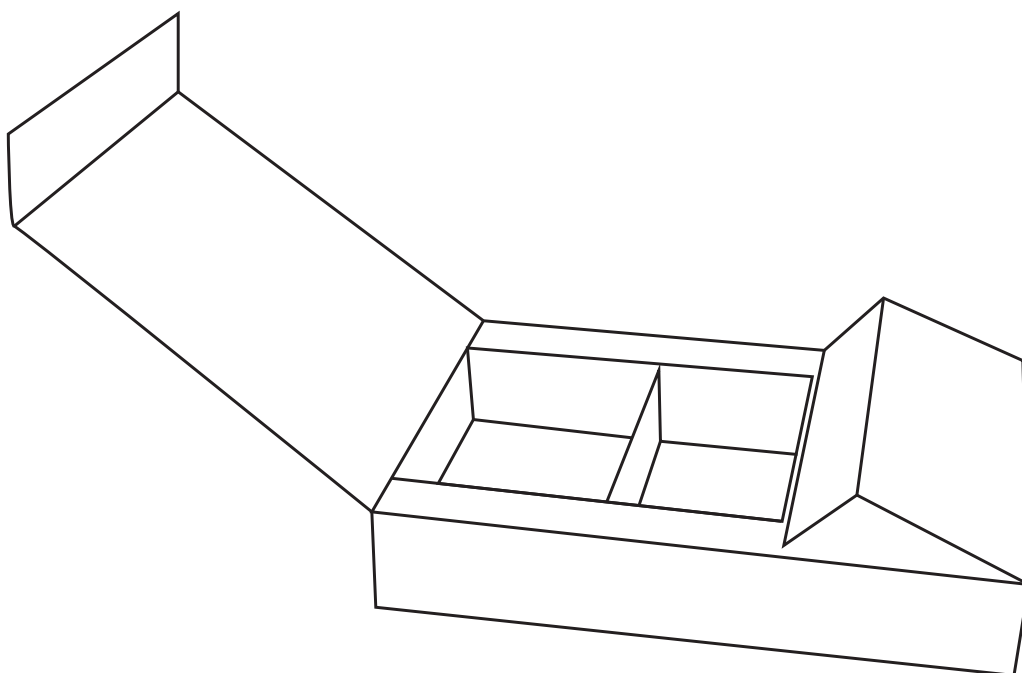

Figure 1
- 1 Figure 1 shows a commercially manufactured package for cosmetics. The package is made from folding boxboard.